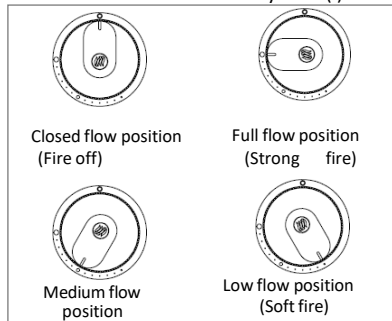

Figure 2: Adjusting the joystick
6. Then adjust the flame height as desired by turning the control lever(s) from full flow (large circle) to reduced flow (small circle) (See figure 2)